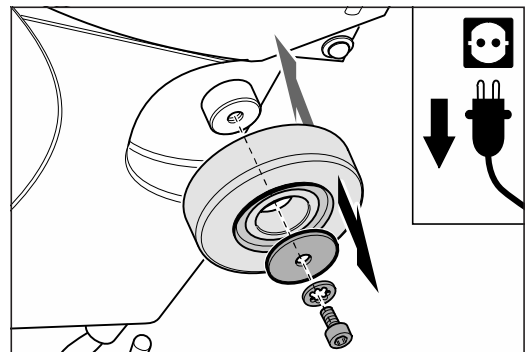

Fig. 64 Remove the screw with the washers in the center of the wheel and remove the lateral wheel. Replace in reverse sequence. **Similar to figure.**
- 5 Release the screw in the center of the lateral wheel and remove the screw and the washers (fig. 64).